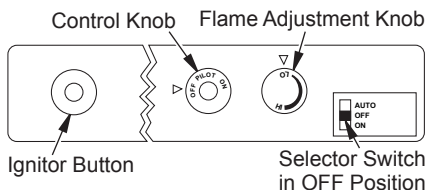

Figure 29 - Control Knob and Ignitor Button Location
4. Press in and turn control knob clockwise  to the OFF position (see Figure 29, page 24).
- Wait five (5) minutes to clear out any gas. Then smell for gas, including near the floor. If you smell gas, STOP! Follow “B” in the safety information, starting in column 1, page 23. If you don’t smell gas, go to the next step.
- Press in and turn control knob counterclockwise ↺ to the PILOT position. Press in control knob for five (5) seconds (see Figure 29).